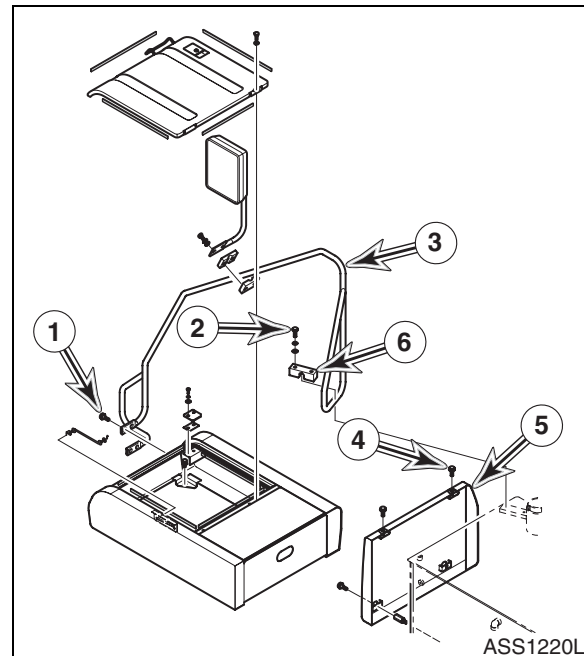

Figure 12
5. Install four bolts (4, Figure 12) and cover (5) on fuel tank.